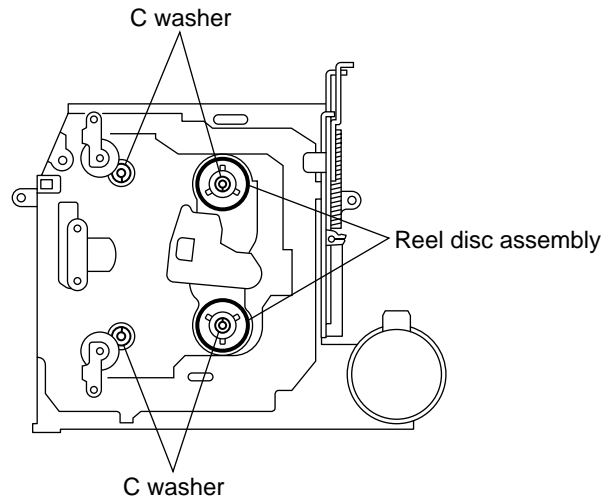

Fig.4
**■ Removing the reel disc assembly (See Fig.4)**